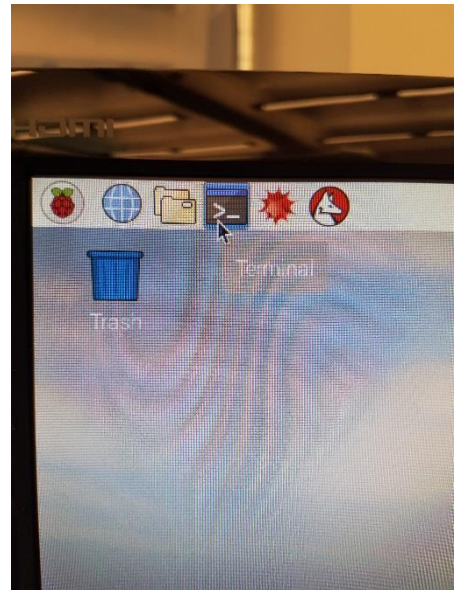

Figure 10: Terminal on the Raspberry
3. Once both the Raspberry Pi and your phone are connected to the **SU-ECE-Lab** network, click on the terminal (black box icon) in the task bar up at the top of the screen (Figure 10).